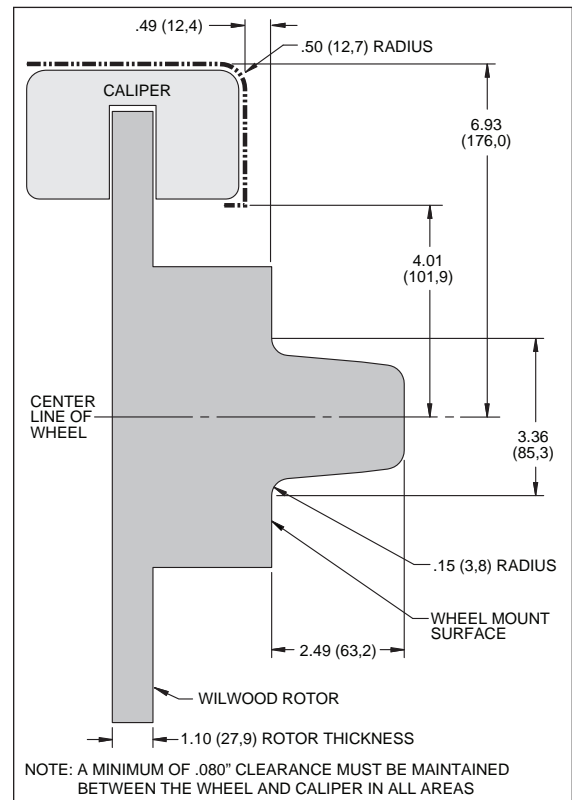

Figure 3. Wheel Clearance Diagram
- Review the Wheel Clearance Diagram (Figure 3, page 4) to verify that there is adequate clearance with the wheels you will be using with the installation.
- Verify wheel clearance utilizing Figure 3.